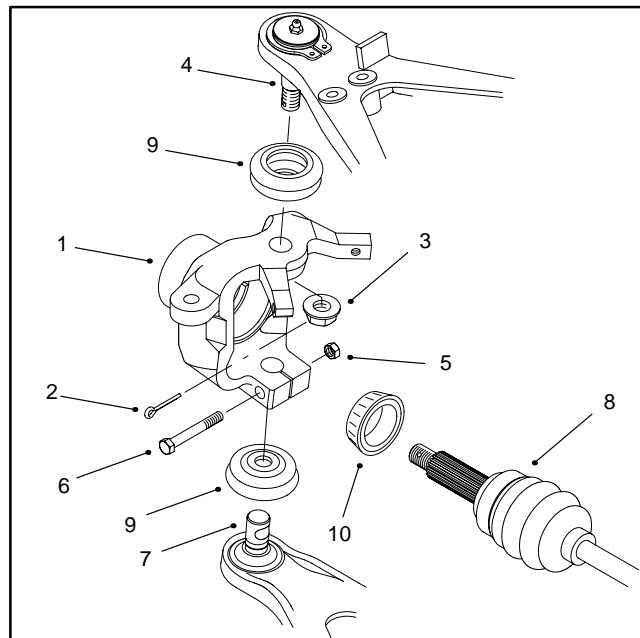
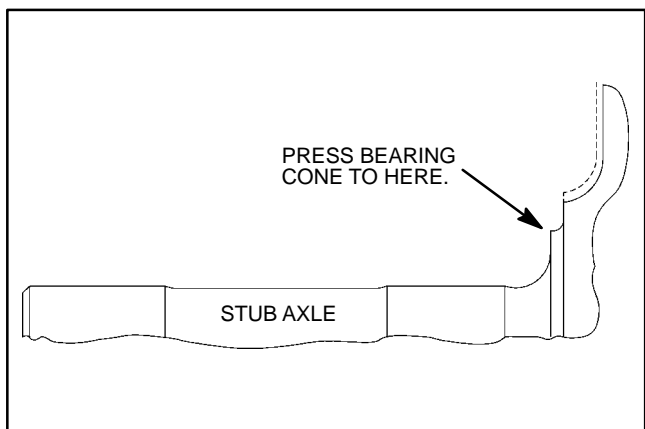

Figure 3
Figure 5
2. Partially loosen lug nuts (1). Jack up and secure front wheel off the ground (see Jacking Vehicle in Chapter 1 – Safety). Remove lug nuts and wheel from the brake drum (32).
3. Remove brake drum (32) from the cap screws (3) and stub axle (31).
4. Remove flange lock nut (36) and flat washer (35) from the threaded shaft of the CV joint (15) and stub axle (31).
5. Pull stub axle (31) and bearing (14) cone from the axle housing (28). Remove large spacer (30) and small spacer from the axle housing. Remove remaining bearing (14) cone from the housing.
6. Remove cap screw (9) and flat washer (10) securing the brake hose bracket (12) to the axle housing (28).
7. Remove four cap screws (6) and lock washers (7) securing the brake assembly (5) to the axle housing (28). Secure assembly clear of the housing.
8. Remove cotter pin (16) and slotted hex nut (17) from the tie rod end assembly (20). Disconnect end assembly from the axle housing (28).
9. Remove axle housing (28) from the suspension as follows (Fig. 3):
2. If ball joint seals are torn or cracked, replace seals and lubricate ball joints (Fig. 3).
3. Replace worn or cross-threaded cap screws (3) or lug nuts (1).
4. Replace large spacer (30) if worn or damaged.
1. If cap screws (3) were removed from the stub axle (31), Install new cap screws and lock washers (2) to the stub axle. Apply Loctite 680 or equivalent to the threads near the head of the cap screws. Torque cap screws from 40 to 60 ft-lb (5.5 to 8.3 kg-m).
**IMPORTANT: Bearing cones (14) and bearing cups (14) are part of a matched set; these parts are not interchangeable. Use one bearing set per axle housing (28).**
2. If a bearing cup (14) was removed from the axle housing (28), press **new** bearing cups into each end of the axle housing (28).
3. Pack both bearing (14) cones with Mobile high temperature grease or equivalent. If the bearing cone was removed from the stub axle (31), slide wide end of **new** bearing cone onto the shaft of the stub axle and press cone onto the shaft (Fig. 5).
4. Insert shaft of the stub axle (31) into the axle housing (28). Slide small spacer onto the shaft, then slide large spacer (30) onto the shaft.
5. Slide bearing (14) cone, with its narrow end first, onto the shaft of the stub axle (31).
6. Apply No. 2 general purpose grease to the splines of the CV joint (15).
7. Position brake backing plate assembly (5) to the axle housing (28). Secure brake assembly to the axle housing with four cap screws (6) and lock washers (7).
8. Position stub axle (31)/axle housing (28) assembly to the CV joint (15). Insert splined end of the CV joint into the stub axle.
9. Apply Loctite 271 or equivalent to the threads of the CV joint (15). Install flat washer (35) and flange lock nut (36) to the CV joint threads.
10. Install suspension to the axle housing (28) as follows (Fig. 3):
- C. Torque flange lock nut (36) from 170 to 200 ft-lb (23.5 to 27.7 kg-cm).
11. Connect tie rod assembly (20) to the axle housing (28). Secure slotted hex nut (17) and cotter pin (16) to the tie rod end assembly.
12. Secure brake hose bracket (12) to the axle housing (28) with cap screw (9) and flat washer (10).
13. Install brake drum (32) to stub axle (31) with cap screws (3).
14. Secure wheel to the brake drum (32) with five lug nuts (1). Lower front wheel to the ground. Torque lug nuts from 45 to 55 ft-lb (6.2 to 7.6 kg-m).